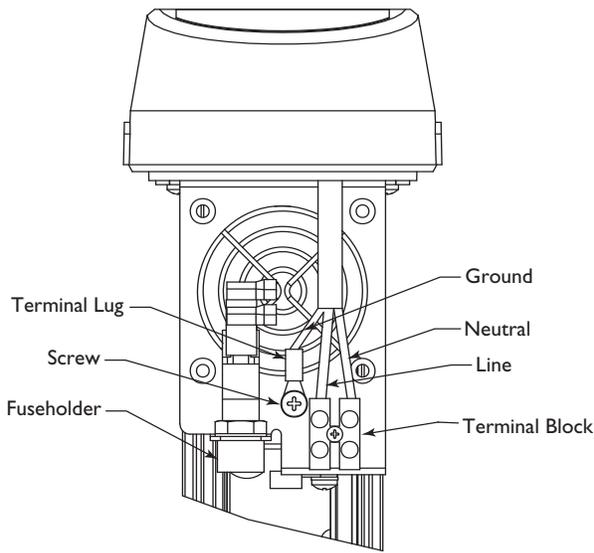

Figure 10: Power Connections - Fan Units
6. Connect the supply power wires to the left side or the top side of the terminal block provided. Strip no less than 6 mm (0.25-inch) and no more than 8 mm (0.31-inch) of insulation away from the wire. Be sure not to nick the wires. See **Figure 10**.